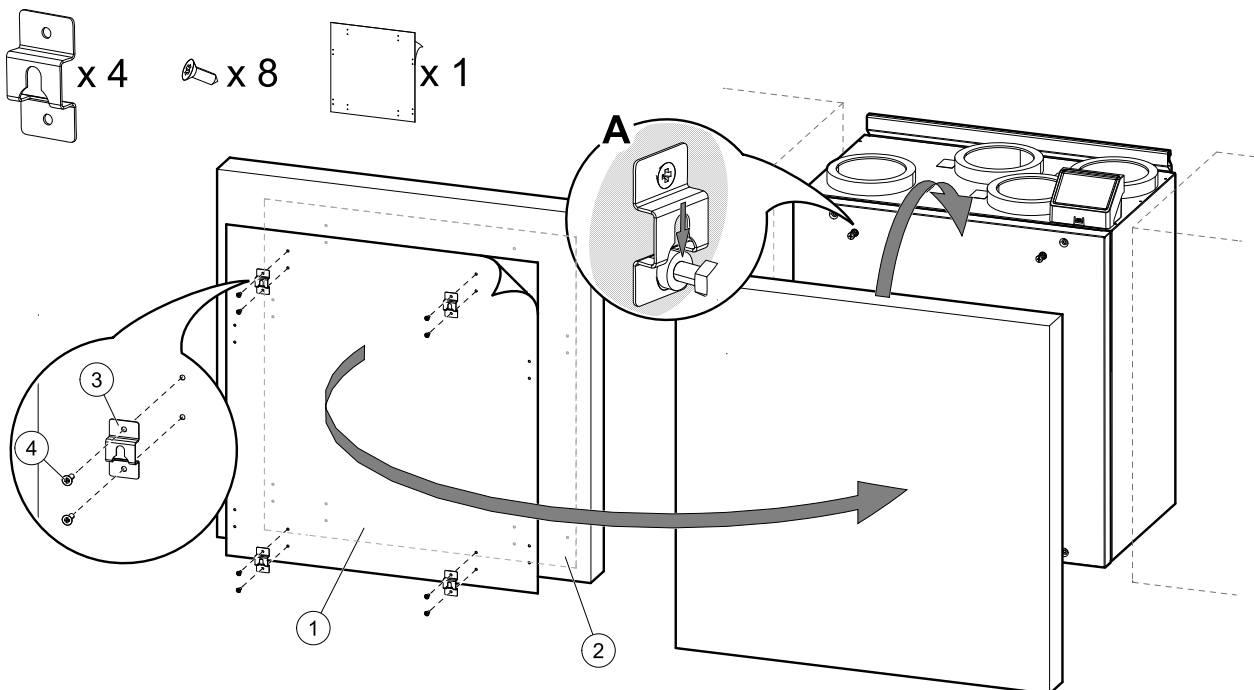

Fig. 13 Installation of hooks and mounting of the kitchen furniture panel
2. Sticker with marked holes (figure 13, pos. 1) is included with the unit. Holes mark spots for screws to secure hooks. Place the sticker on a back of the kitchen furniture panel, figure 13, pos. 2), adjust position of the sticker according to the panel size and position of the unit between cabinets. Size of the sticker is the same as the unit.
Once correct position is found, attach four hooks (figure 13, pos. 3) by fastening each with two screws (figure 13, pos. 4). Hang the kitchen furniture panel on protruding bolts (figure 13, pos. A).